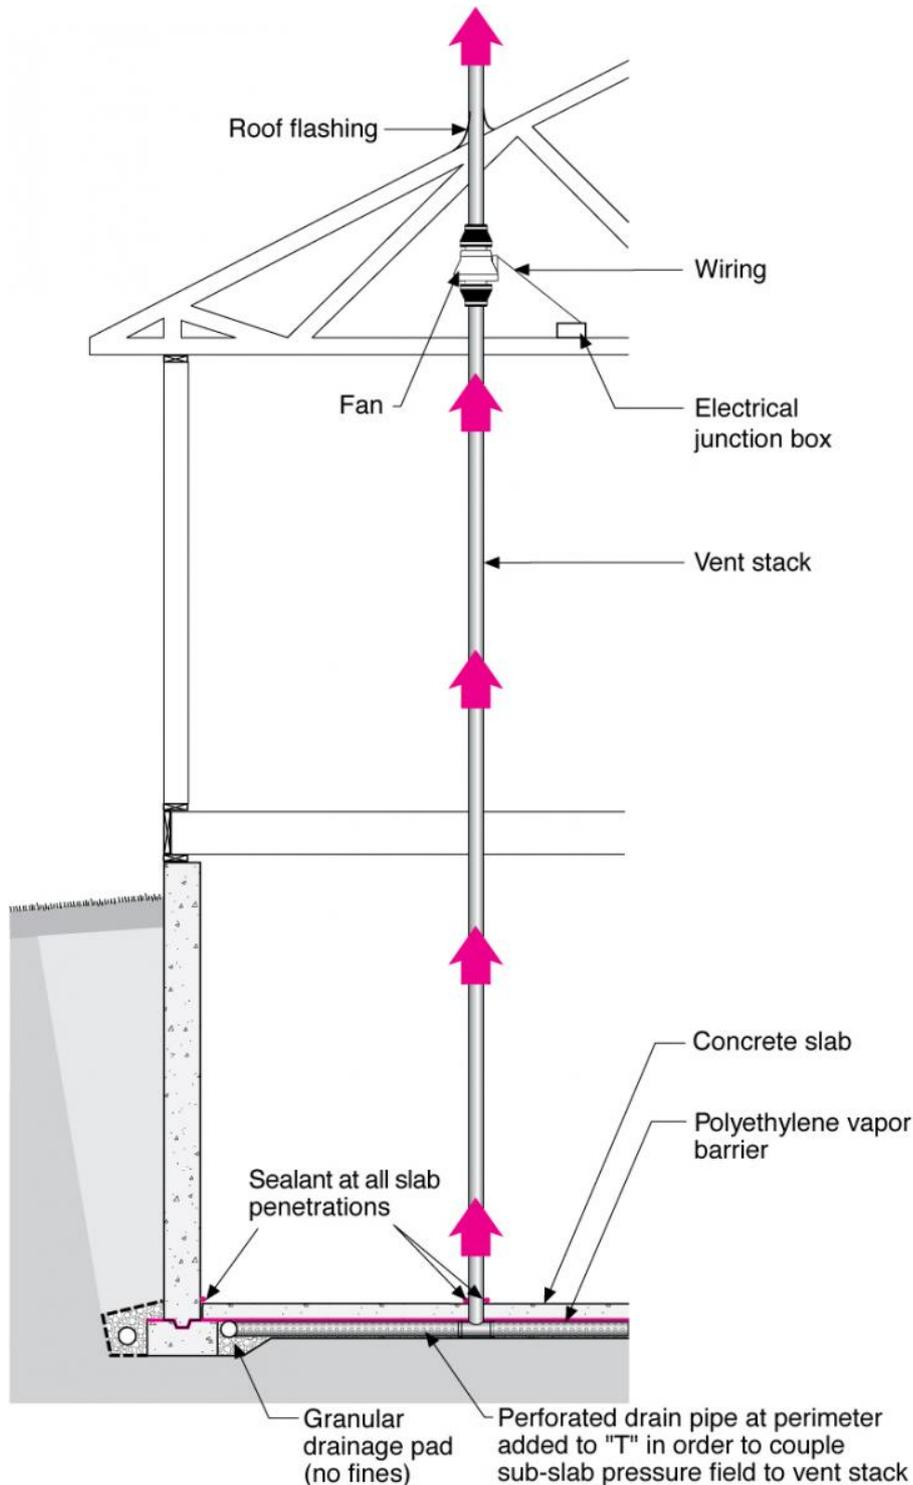

Figure 3. Radon fan - basement construction (image courtesy of BSC).
2. Lay a min. 3" diameter perforated pipe in a gravel trench or a collection mat on top of the gravel around the foundation perimeter. Install the pipe in a loop to allow for the soil gas to enter the pipe from two sides and connect it to either side of a vertical "T". Communication to all sub-slab areas is required and multiple connection points or interconnections may be required. See Figure 3.